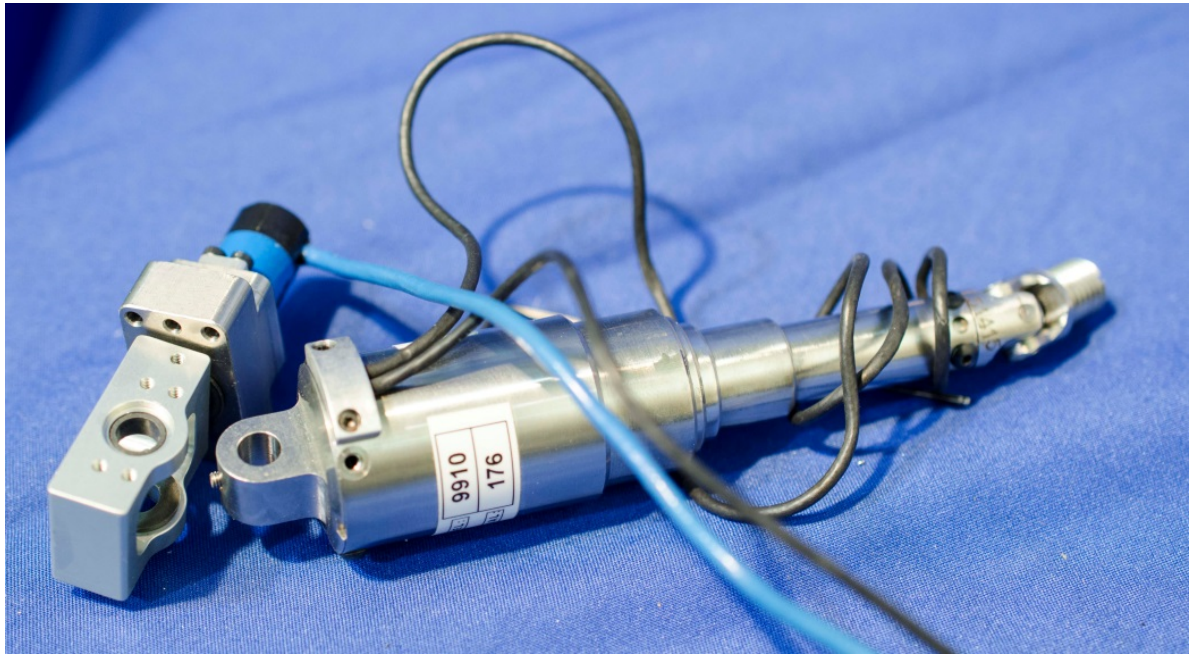

Figure 9-9. Install Z-axis potentiometer to IR-TRACC pivot end
- 9.2.2.5 To install the Z-axis potentiometer, insert the IR-TRACC pivot end into the pivot assembly (Figure 9-9).